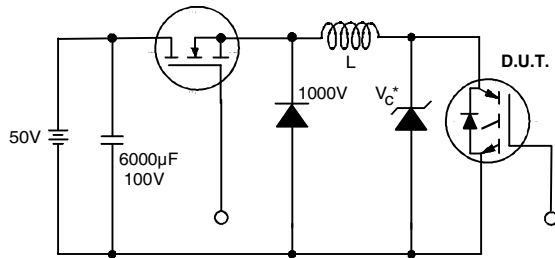

Fig. 13a. Clamped Inductive Load Test Circuit
- ② $V_{CC} = 80\% (V_{CES}), V_{CE} = 20V, L = 10\mu\text{H}, R_G = 5.0\Omega$. (see figure 13a)
- ③ Repetitive rating; pulse width limited by maximum junction temperature.
- ④ Pulse width $\leq 80\mu\text{s}$; duty factor $\leq 0.1\%$.
- ⑤ Pulse width $5.0\mu\text{s}$, single shot.